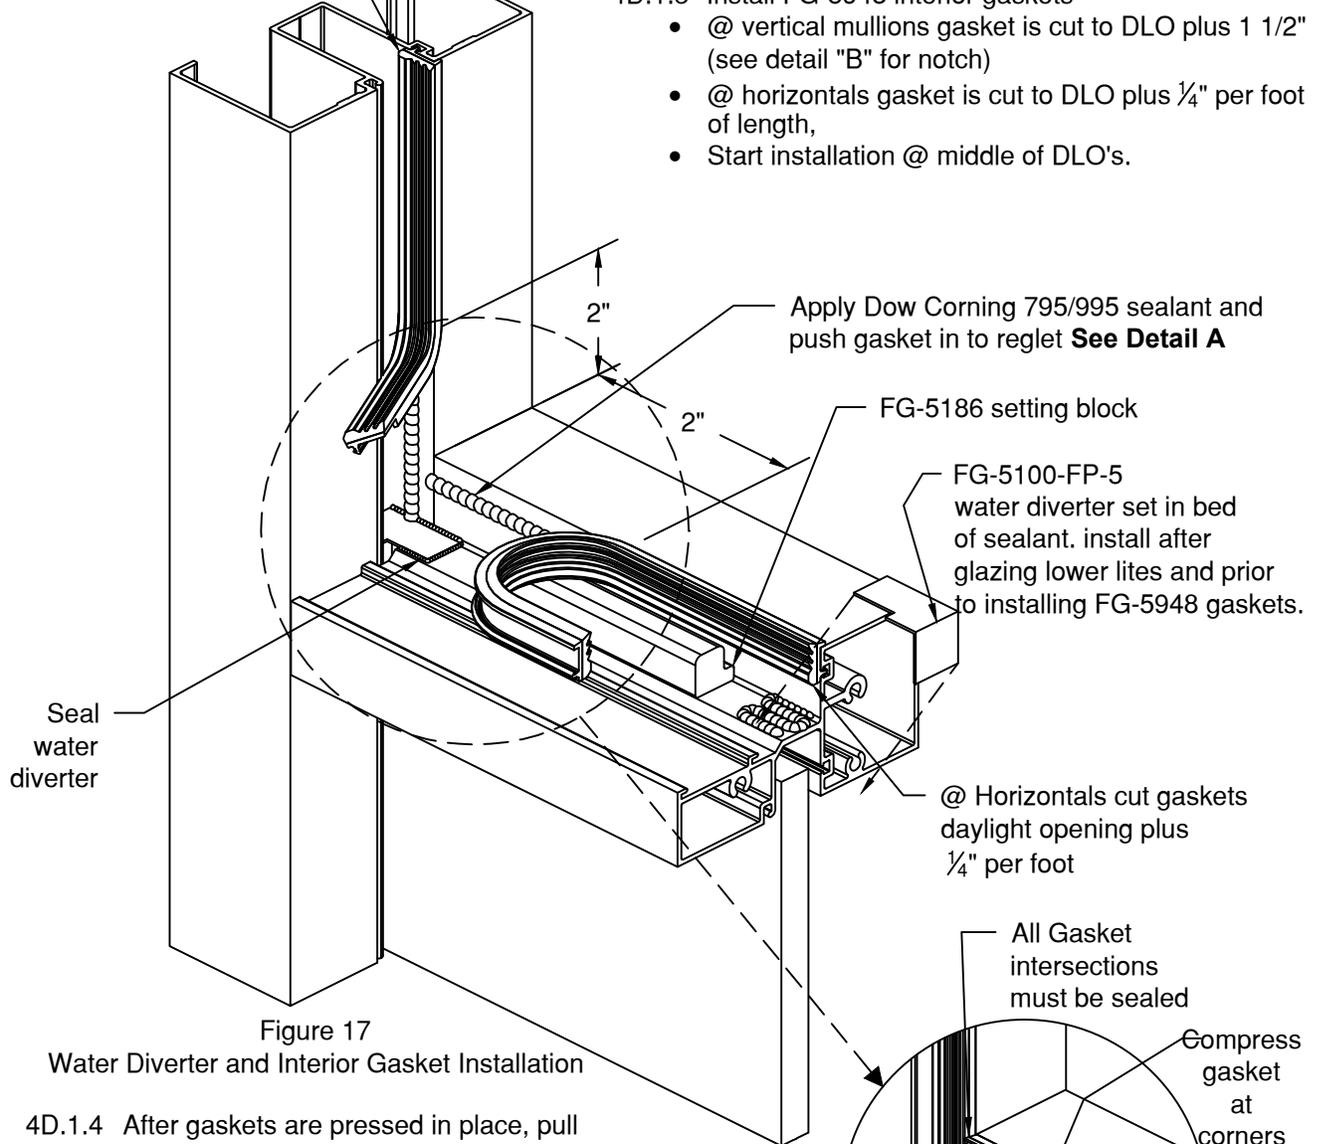

Figure 17
- 2.2.2 Install FG-5185 Wet Glaze spacer gasket on vertical members, prior to assembling horizontals, sill and head members. Spacer gasket runs through entire length of vertical members. FG-5948 Dry Glaze interior gaskets are installed after assembly **See Figure 17 on Page 20.**
4D.1.2 Install water diverters as shown on at **Figure 17** after lower lite is in position.
4D.1.4 After gaskets are pressed in place, pull gasket from pocket as shown in **Figure 17** above. Clean glass and framing a minimum of 2" from each end. Apply Dow Corning 795/995 sealant to gasket raceway, see **Figure 17**. Push gaskets into reglet, See **Details A & B**.